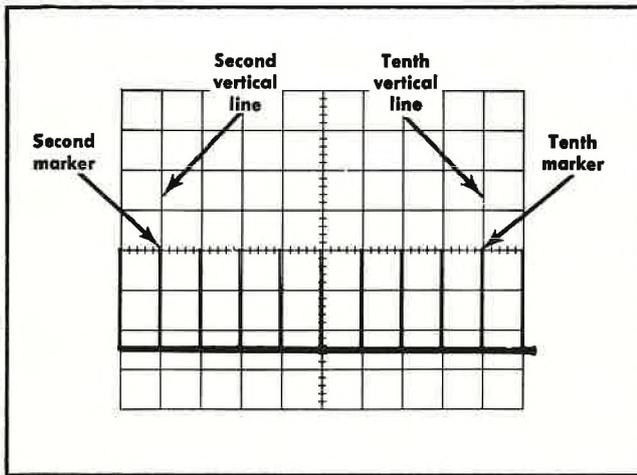

Fig. 5-9. Typical CRT display showing correct sweep calibration.
h. CHECK—CRT display. The center eight time intervals must coincide with the center eight graticule divisions, ± 0.05 div. (See Fig. 5-9.)